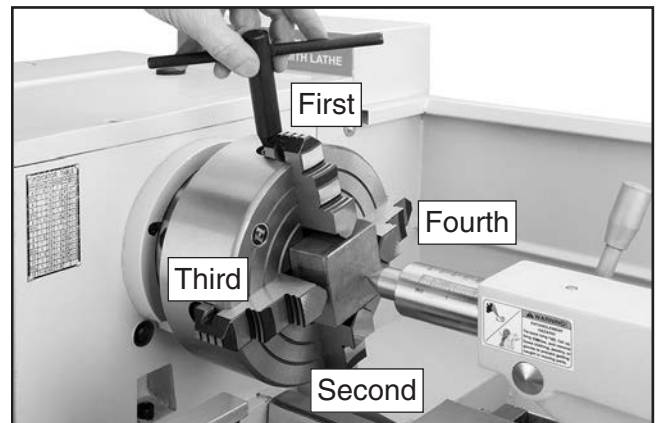

Figure 27. Centering workpiece (tool post removed for clarity).
5. Turn the tailstock quill so the dead center applies enough pressure to the center point of your workpiece to hold it in place (see **Figure 27**), then lock the tailstock quill.
7. Tighten each jaw in small increments. After adjusting the first jaw, continue tightening in opposing sequence (see **Figure 27**). Check frequently to make sure the required point on the workpiece has not wandered away from the spindle centerline due to applying too much pressure to a single jaw.